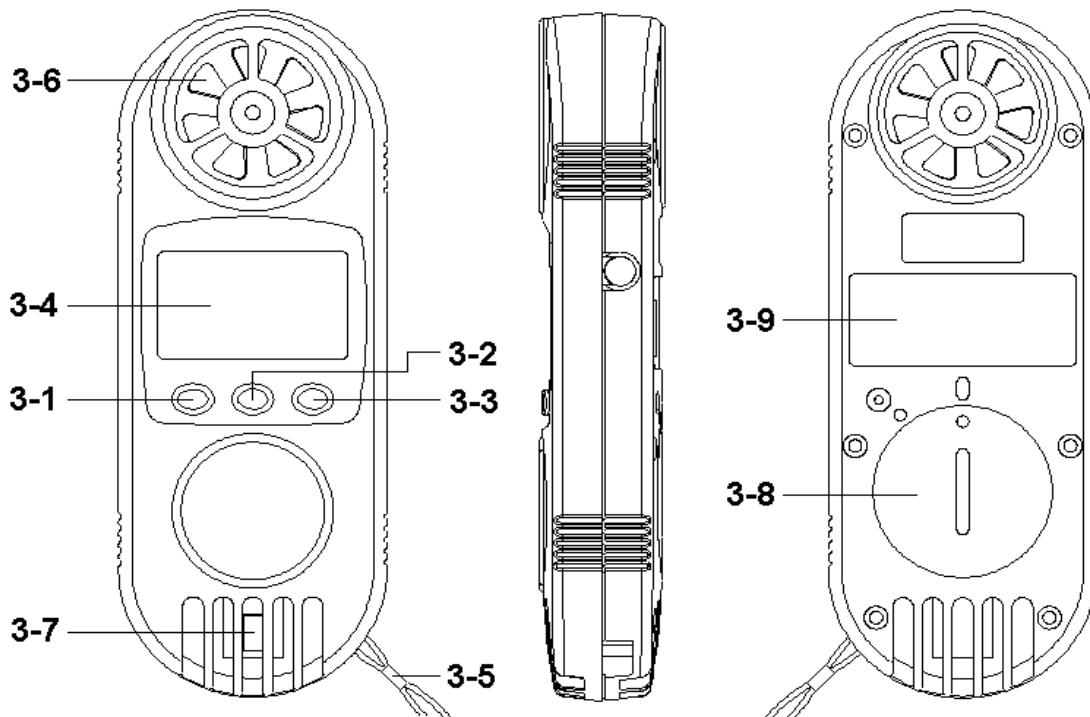

Fig. 1
Intend to get the precision reading, for the Humidity / Temp. , Dew point Temp., Wet bulb Temp., Heat index measurement, the hand or fingers do not touch (or stay away) the Humidity sensor (3-7, Fig. 1).
- 2) Open the " Battery Compartment / Cover " (3-8, Fig. 1) and remove the battery.